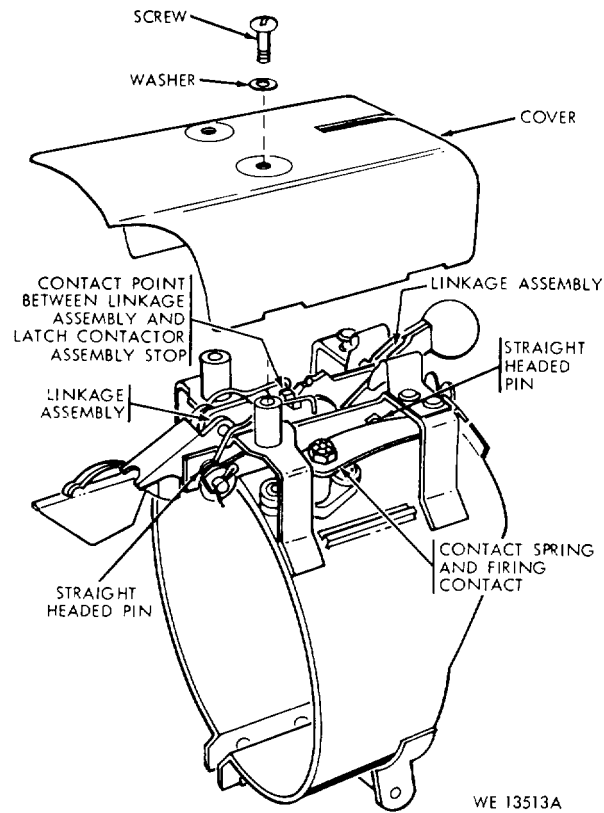

Figure 3-1. Lubrication points of contactor latch assembly.
a. Immediately after firing, clean all powder-fouled surfaces with rifle bore cleaning compound (CR). Clean the remaining components, with dry cleaning solvent (SD). Wipe dry and oil with general purpose lubricating oil (PL special). Thereafter, clean and oil every 90 days unless inspection reveals shorter intervals are required. Wipe clean before firing.
b. The contactor latch assembly will be lubricated with general purpose lubricating oil (PL special) as shown in figure 3-1.
a. The cover of the contactor latch assembly may be removed, for lubrication, by removing the screws and washers as shown in figure 3-1.